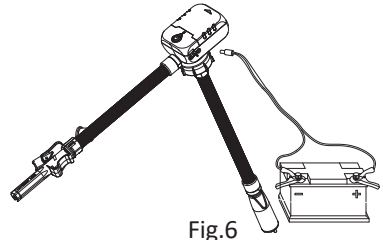

Fig.6
1. Connect the battery clamps of the DC power cable to a charged 12 V battery power supply, as Fig.6